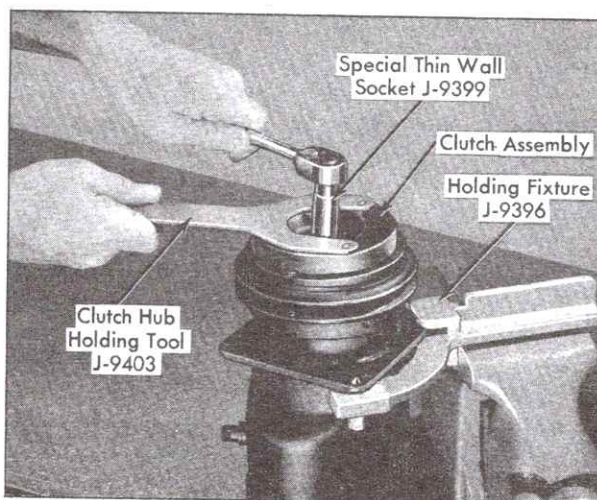
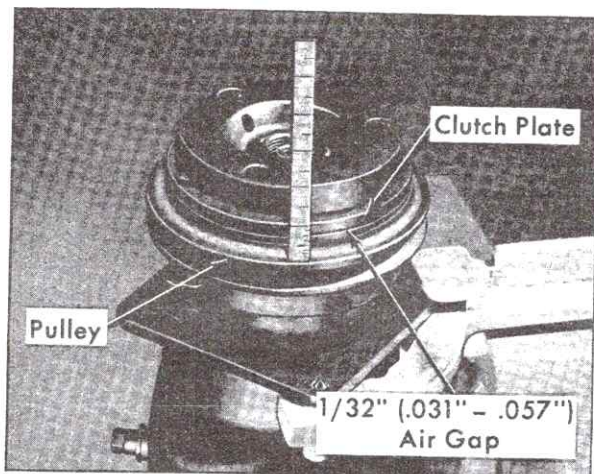

Fig. 1-29 Removing Lock Nut
Fig. 1-33 Checking Air Gap
2. Keep clutch hub from turning with Clutch Hub Holding Tool, J-9403, and remove locknut from end of shaft, using Thin Wall Socket, J-9399, Fig. 1-29.
10. Install a new shaft locknut with small diameter boss of nut against hub spacer, using special Thin Wall Socket, J-9399, Fig. 1-29. Hold clutch hub with Clutch Hub Holding Tool, J-9403, and tighten nut to 15 foot-pounds torque, using a 0-25 foot-pounds torque wrench. Air gap between frictional surfaces of pulley and clutch plate should now be approximately  $\frac{1}{32}$  inch (.031 inch to .057 inch), Fig. 1-33.